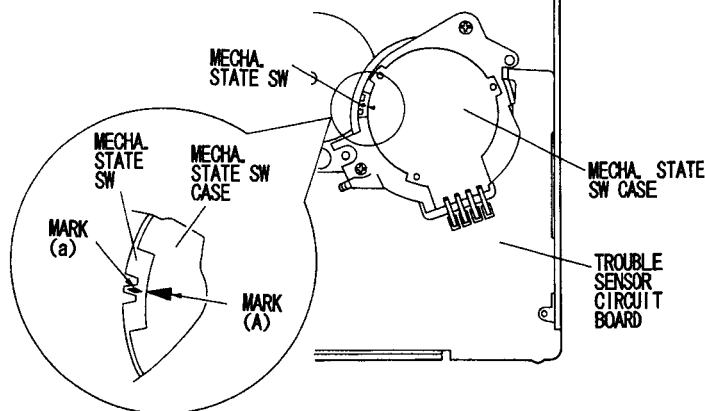

Fig. 3-1
3.1 Mechanism State Switch [Mecha. State Sw] (Fig. 3-1)